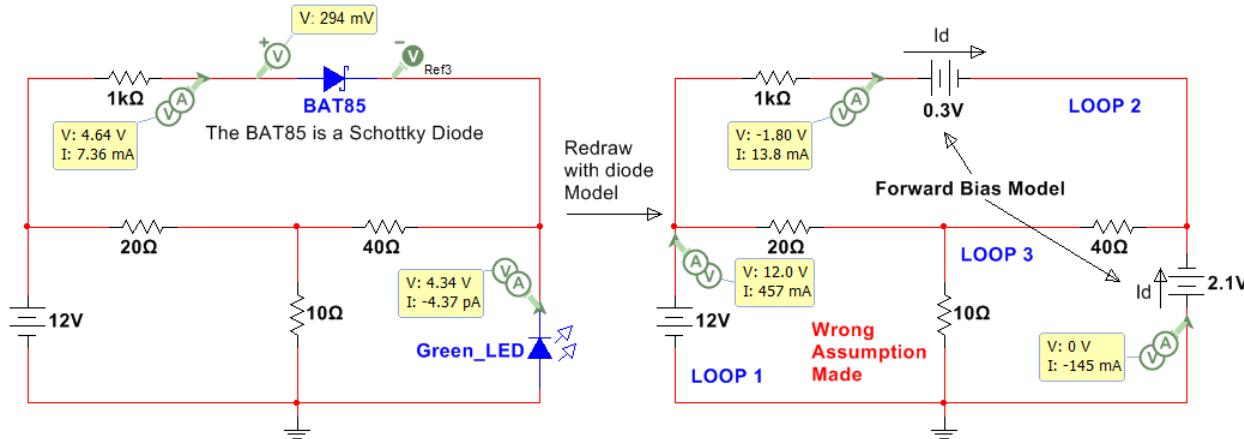

Figure 6.9: Circuit for Example 6.5 with the **wrong assumptions made**.
Example 6.5) Follow the DC Diode Analysis process to solve the following left circuit in Figure 6.9.
Step 1) Assume Both diodes are forward biased (1 of 4 possibilities). Model is shown in Figure 6.9 (Right).
Assuming currents are clockwise, solving this matrix yields  $\rightarrow I_1 = 457.4 \text{ mA}$ ,  $I_2 = 13.8 \text{ mA}$ ,  $I_3 = 144.5 \text{ mA}$ . (These values are verified in Multisim in the right circuit of Figure 6.9)